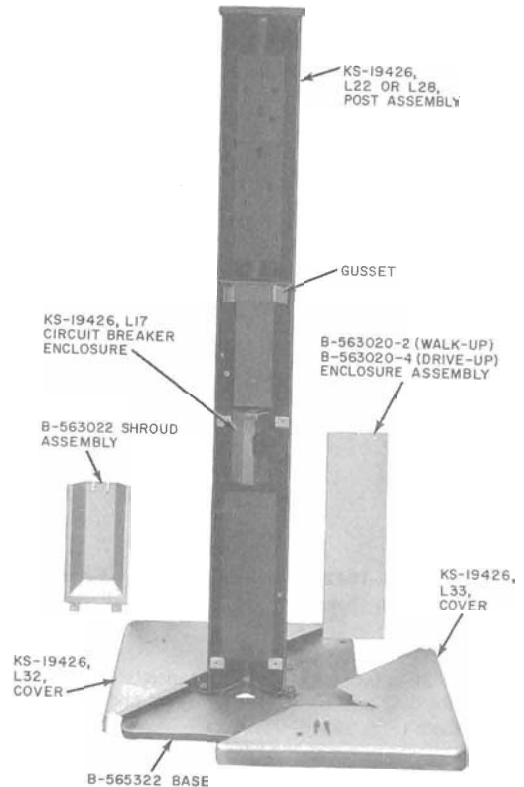

Fig. 9—Typical Pedestal Kit
**2.13** A black angular steel post, with an aluminum cover on the flat front face, is available for walk-up or drive-up service (Fig. 9).
- 3.10** Loosen the tamperproof screws and remove shroud from the post(s) (Fig. 9).
- 3.11** Remove enclosure assembly (Fig. 9) from the post(s) by removing two 10-24 by 3/8-inch Phillips FHMS.